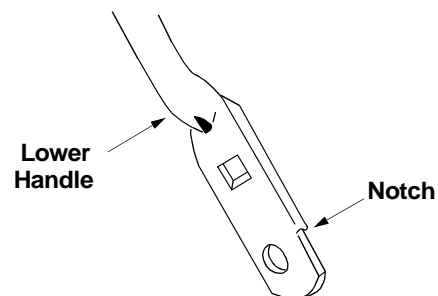

Figure 16
- Turn the lower handle around so the notches on the bottom of the lower handle are facing forward as shown in Figure 16. Reassemble, placing the bottom holes in the handle over the weld pins in the handle mounting bracket.